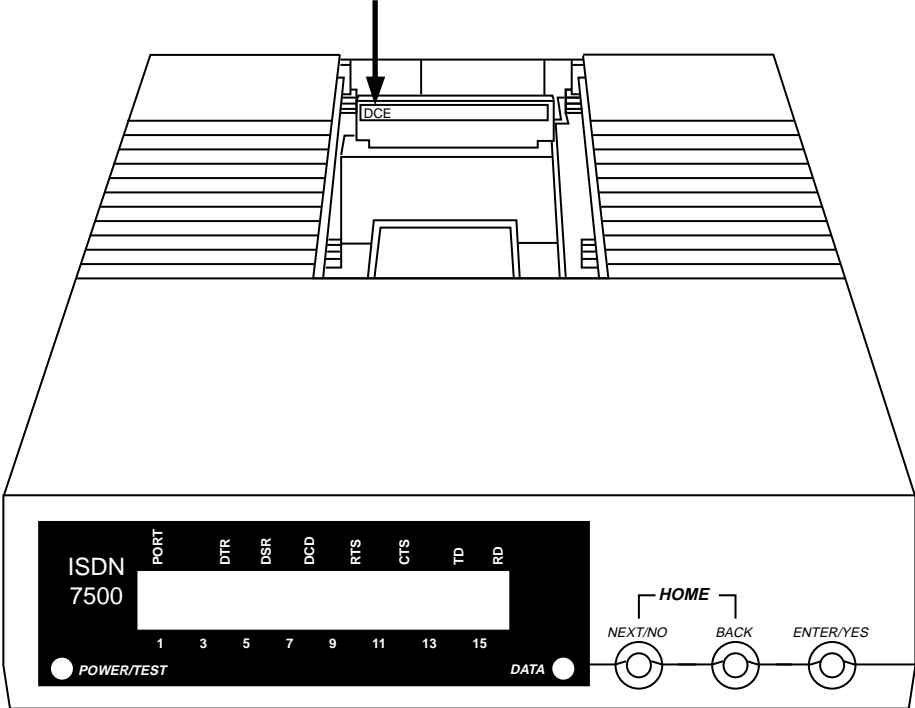

FIGURE 8-10. The Flip Board from the Front of the Unit
- 4. Look at the DCE/DTE flip board from the front of the set. Either **DTE** or **DCE** will appear in the left-hand corner of the board. See Figure 8-10.